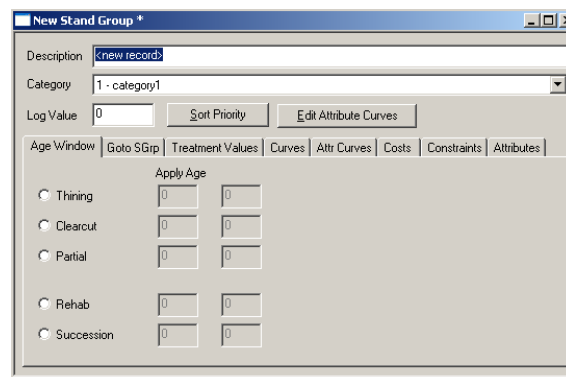

Figure 46: Creating a new stand group.
8.2.1 Select *File*, then *New*, then *Stand Group*. The New Stand Group window in Figure 46 should appear.